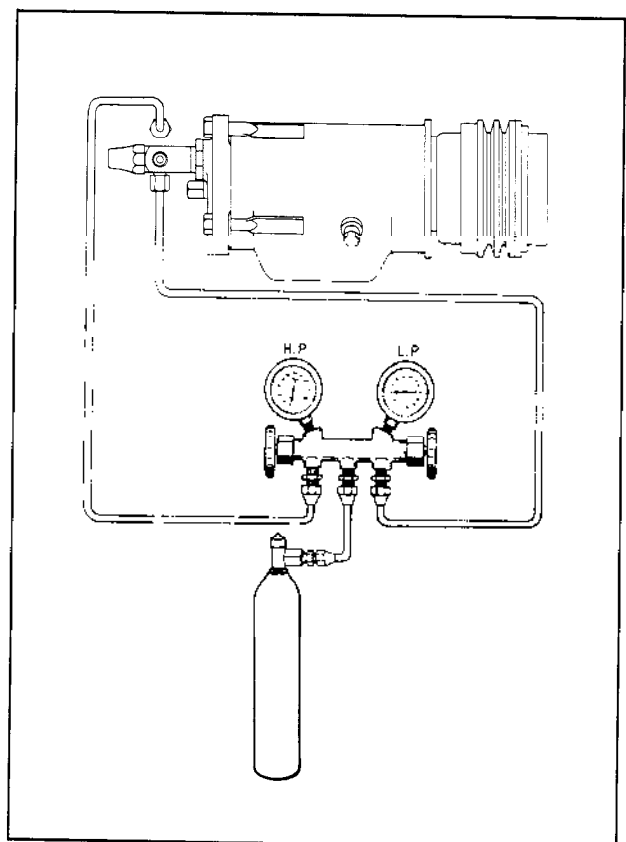

Fig. 14-30 Evacuating The System
1. Have gauge set and refrigerant drum connected as shown in Fig. 14-30.